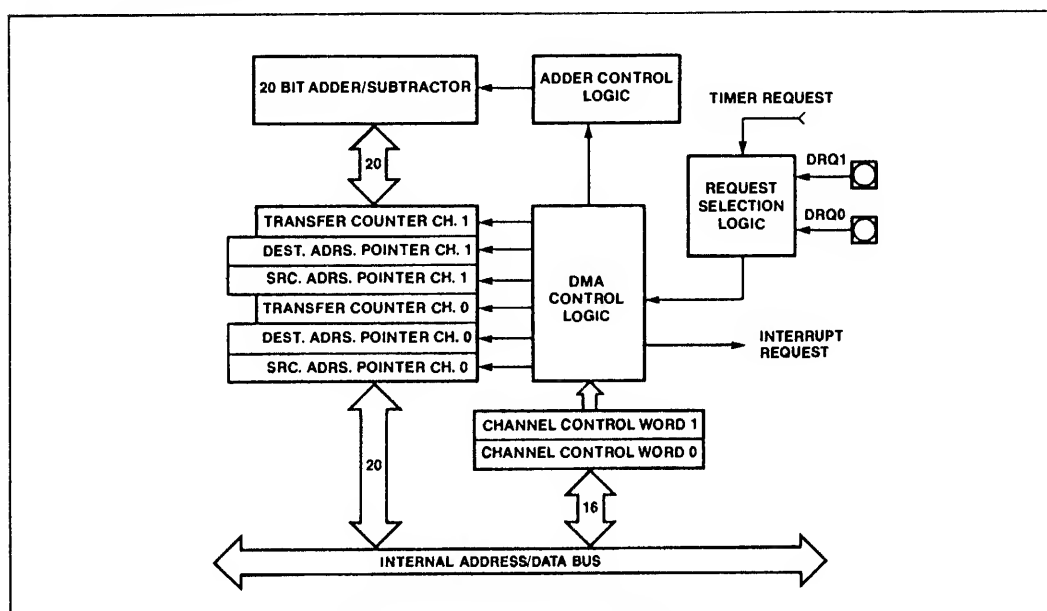

Figure H-9. DMA Block Unit Diagram
Each channel has six registers in the control block which define each channel's specification operation. The control registers consist of a 20-bit Source pointer (2 words), a 20-bit Destination pointer (2 words), and 16-bit Transfer Counter, and a 16-bit Control Word. The format of the DMA Control Blocks is shown in Table H-7. The Transfer Count Register (TC) specifies the number of DMA transfers to be performed. Up to 64K byte or word transfers can be performed with automatic termination. The Control Word defines the channel's operation (see Figure H-9). All registers may be modified or altered during any DMA activity. Any changes made to these registers will be reflected immediately in DMA operation.